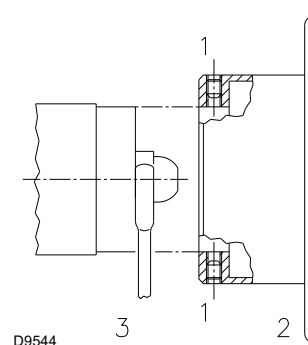

Fig. 19
- fitting the wrench through the central hole in the flame stability disk or loosen screws 1)(Fig. 19);
- remove disk 2)(Fig. 19) and replace the nozzles using the wrench 3)(Fig. 19).